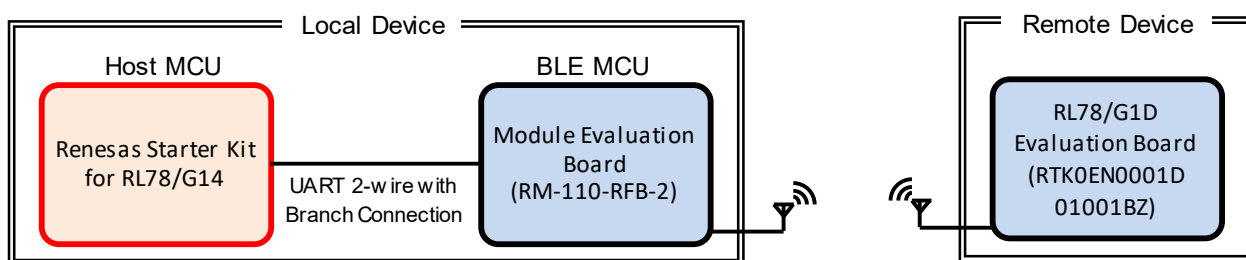
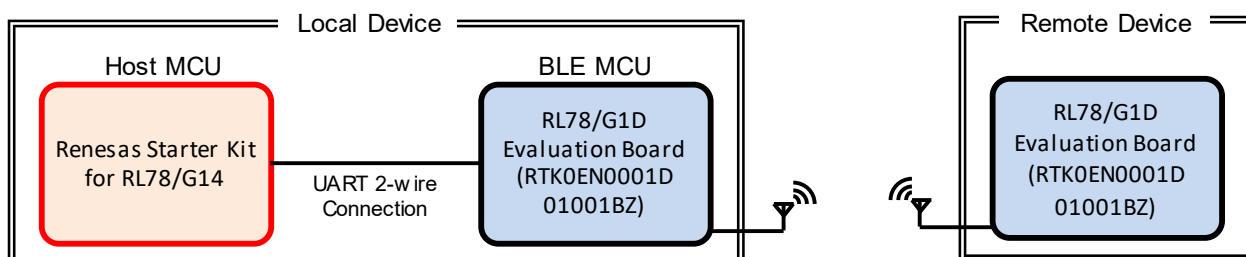

Figure 2-1 System configuration (1) (RY7011)
Figure 2-2 System configuration (2) (BLE Evaluation Board)
The system configuration diagram used with the simple API program is shown below. Simple API is used in modem configuration. "Figure 2-1 System configuration (1) (RY7011)" uses the Renesas Starter Kit for RL78/G14 (hereinafter referred to as "RSK") for the Host MCU on which the simple API operates as local device. The BLE MCU uses the Module Evaluation Board (RM-110-RFB-2). The default baud rate of UART 2-wire branching connection method is 115,200 bps. The remote device uses the virtual UART (R01AN3130) application on the RL78/G1D evaluation board (RTK0EN0001D01001BZ).
"Figure 2-2 System configuration (2) (BLE Evaluation Board)" is a configuration using the BLE software of modem configuration with the RL78 / G1D evaluation board (RTK0EN0001D01001BZ) as the BLE MCU of local device. The default baud rate of the UART 2 wire system is 4800 bps. When using BLE software, it is necessary to incorporate a general purpose communication profile in order to perform BLE communication. Refer to "8.1 Change of BLE software" for the installation method.
The default setting of the code generation tool used in "Figure 2-1 System configuration (1) (RY7011)" is shown below. When using in "Figure 2-2 System configuration (2) (BLE Evaluation Board)", it need to change the settings with the code generation tool and build the program. Refer to "8.1.1 Preparation of Host MCU Program", "8.1.2 Build of Host MCU Program" for the implementation method.